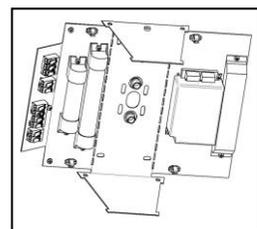

Fig. 3
3. Spread the sides of the gear tray apart only enough to allow access to fixing holes and fix it over the suspension cups so that they project through the two holes either side of the BESA cut-out in the centre. Several fixing holes are provided. (fig. 3)